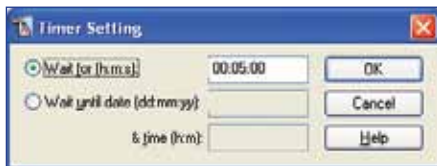

Figure 44. Timer Settings window with minimum wait step.
6. Select button *Insert Timer Settings* and enter a wait step with at least 5 min to ensure that the correspondent temperature and/or humidity step is properly executed before starting the result measurement, see for example Figure 44.